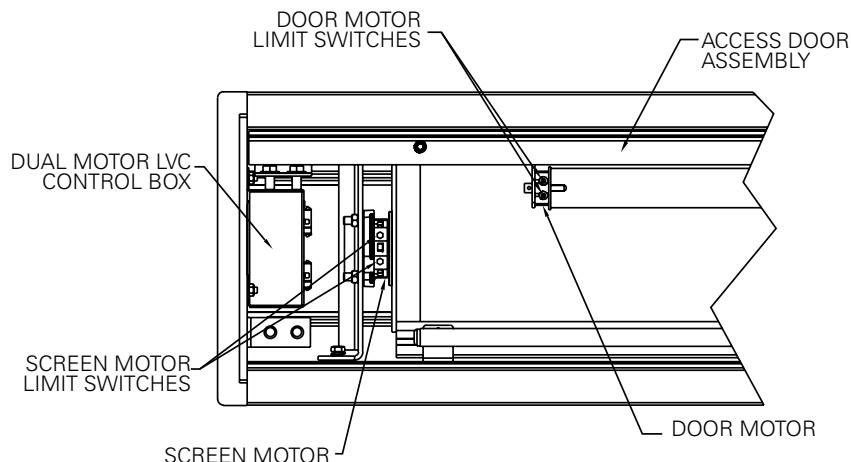

FIGURE 2
9. Carefully remove tape strips securing picture surface around roller. Slat should move freely (Fig. 2). (Only if the roller assembly is pre installed.)
2. When the screen stops, turn the white **"down"** limit knob (Fig. 2) one-quarter turn counterclockwise. Test by raising picture surface approximately two feet, then lower again. Repeat until desired picture surface position is attained.
3. Turn the white **"down"** limit switch (Fig. 2) one-quarter turn clockwise. Test by raising picture surface approximately two feet, then lower again. Repeat until desired picture surface position is attained.